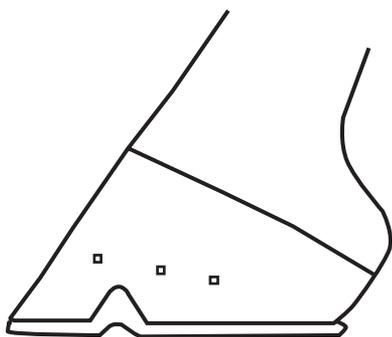

figure 1
- Clip is properly located. (figures 1, 2)
- Clip is not sharply pointed. (figure 1, 2)
- Clip is approximately as high and wide as twice the thickness of the stock. (figures 1, 2)